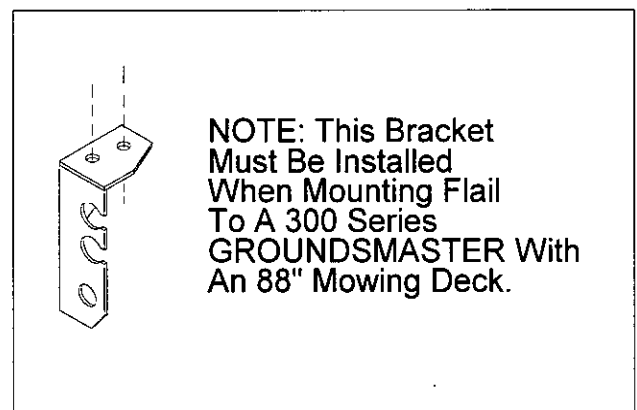

Figure 2
B. Install the Hydraulic Bracket (part number 67-005-2371)(Fig. 2) in the same location with existing hardware.